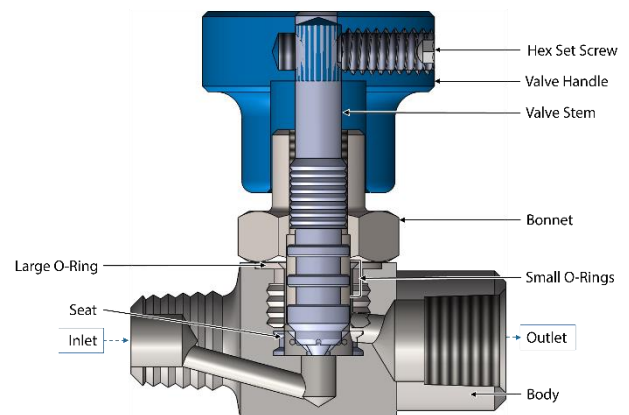

Figure 1: Welker® NV-1MF Instrument Valve Diagram
NEVER use tools to tighten shut or open the NV-1. Hand-tighten only. Do NOT over-torque. At higher pressures, use only a reasonably firm grip. Excessive tightening can damage the seat (*Figure 1*).
3. Using a ⅛ hex wrench, loosen the hex screw and remove the valve handle (*Figure 1*).
4. Using an adjustable wrench, loosen and remove the valve stem/bonnet assembly (*Figure 1*) from the body.
5. Use a seal pick to carefully pick the seat (*Figure 1*) and, if necessary, the retaining ring (not pictured), out of the body.
6. Replace the seat (*Figure 1*) and, if necessary, the retaining ring (not pictured).